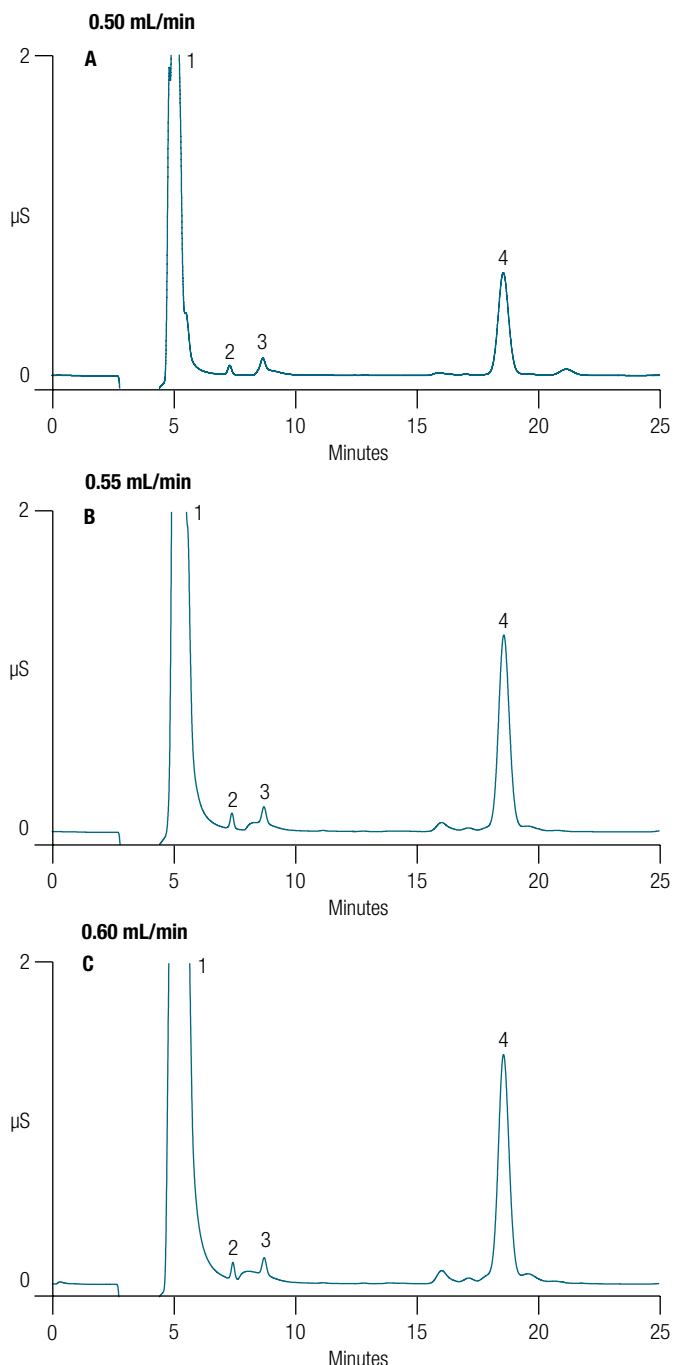

Figure 8. Effect of flow rate on ICE separation.
6. Ensure that the RP-1 pump is delivering at a consistent rate of 0.55 ± 0.02 mL/min. Figure 8 illustrates what happens when the flow rate is faster or slower. At the slower flow rate, not enough of the sample is cut from the ICE separation, resulting in lower recovery of the analytes. Chloride response is reduced by half by varying flow rate from 0.55 mL/min to 0.50 mL/min in this example. Whereas at the faster flow rate, more of the ICE separation is cut resulting in a less optimum separation between glycolate, chloride, and carbonate.